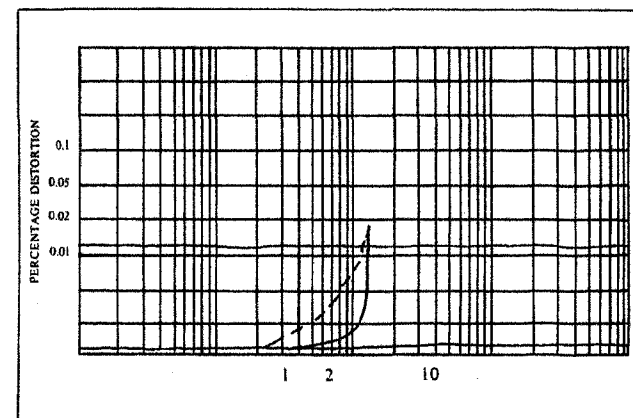
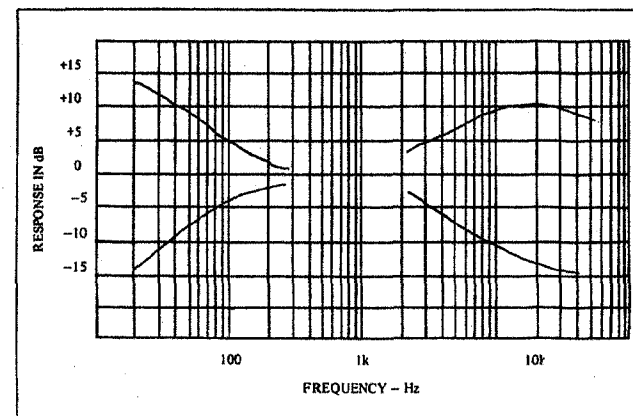

Fig. 1—Volts output and distortion, 600 ohm loads
Fig. 2—Tone control characteristics
The first test was for voltage output and distortion with the results show in figure 1. THD was virtually immeasurable below 4 volts output and was only 0.3% at 13 volts! As most amplifiers need only one or two volts at most, there is a more than adequate margin. IM distortion was 0.005% at 3 volts output, falling to an infinitesimal 0.003% at 2 volts. Harmonic distortion did not increase significantly throughout the audio band so no graph is shown. Figure 2 shows the overall frequency response and the effect of the low frequency filters. One cuts at 20 Hz while the other cuts at 30 Hz, but depressing both buttons brings the turnover frequency down to 10 Hz which is rather surprising, but well, that's how they are labelled and it is absolutely correct.
The tone control characteristics can be seen in figure 2: note that the treble lift is deliberately curtailed at the highest frequencies. The volume control matching was exceptionally accurate and the deviations were less than 0.2 dB. Crosstalk measured 52 dB at 1 kHz, and 48 dB at 10 kHz, channel A to B with 44 dB and 48 dB, channel B to A (phono inputs, 600 ohm termination). Input required for 2 volts output, 600 ohm load was 200 Mv for the high levels and 1.4 mV for phono. Signal-to-noise (ref. 2 volts output, "A" weighting) was better than 100 dB and 80 dB respectively. Overload